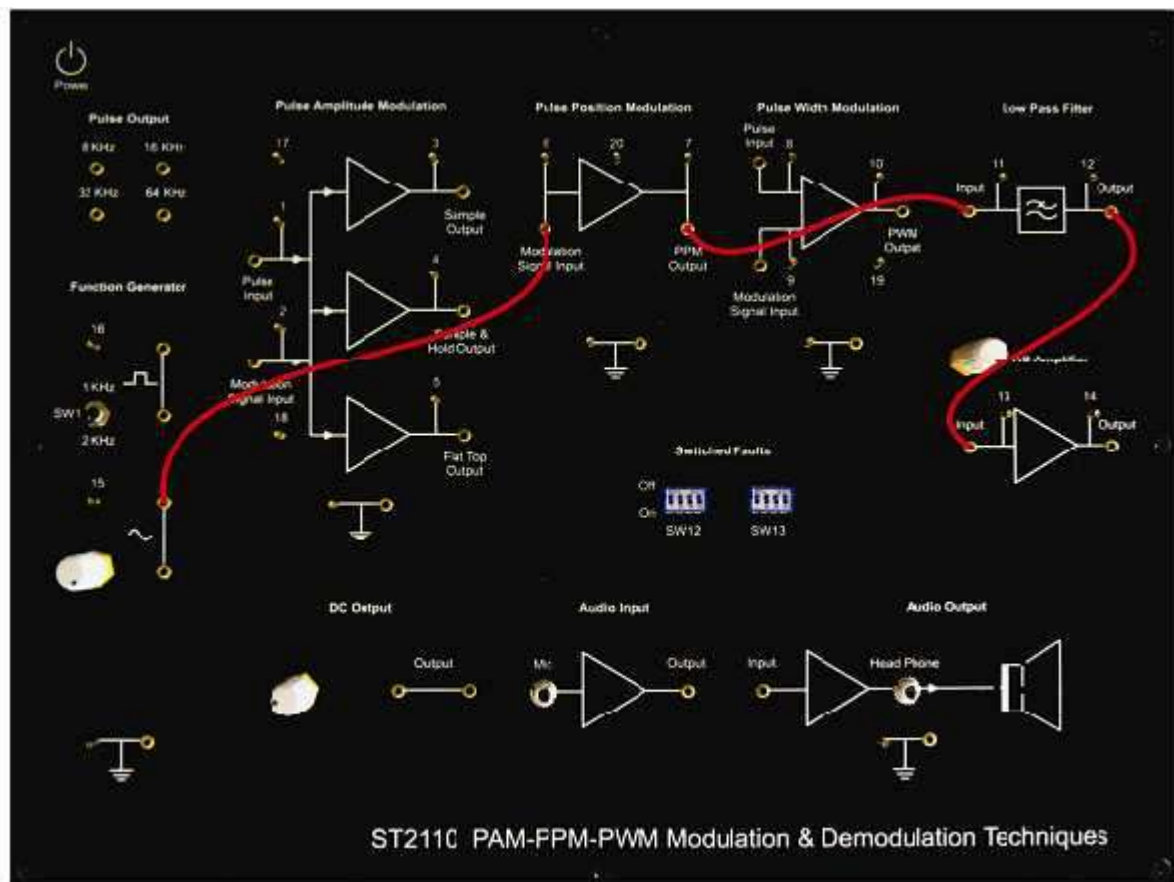

Fig. 5.8a
1. Connect the circuit as shown in Figure 5.8a and also described below for clarity.